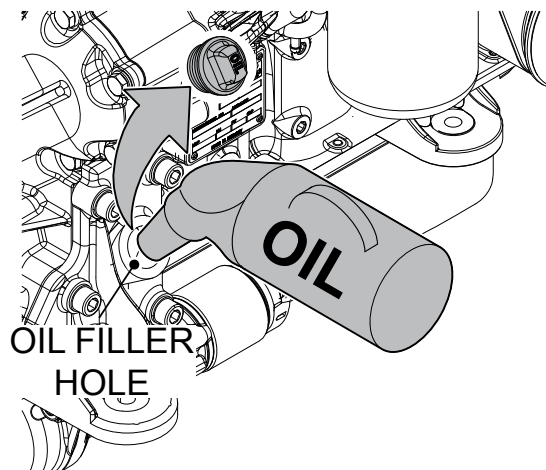

**Figure 7. Engine Oil Dipstick**
4. Pull out the dipstick and check the oil level (Figure 7).